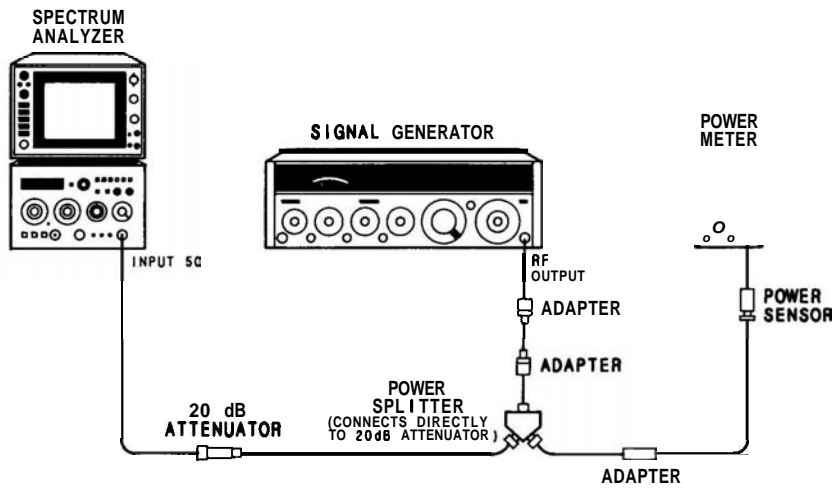

FIGURE 4-16. GAIN COMPRESSION TEST SETUP
2. Connect equipment as shown in Figure 4-16. Note that the **10-dB** attenuator is placed between the power splitter and spectrum analyzer **INPUT 50Ω** connector.